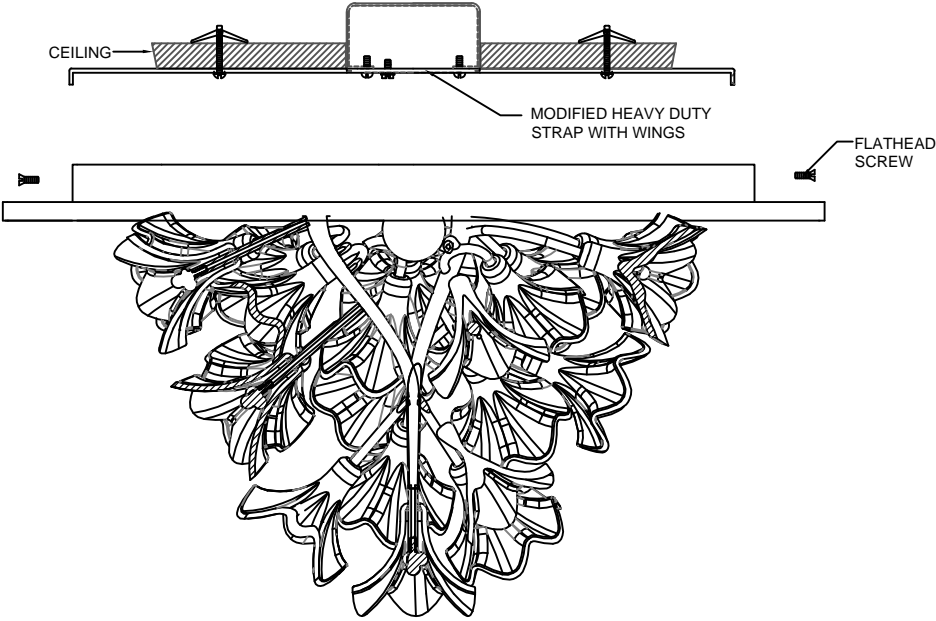

FIGURE-02
- 5. Attach the fixture to the modified heavy duty strap with wings and secure it with flathead screws (See Figure-02)